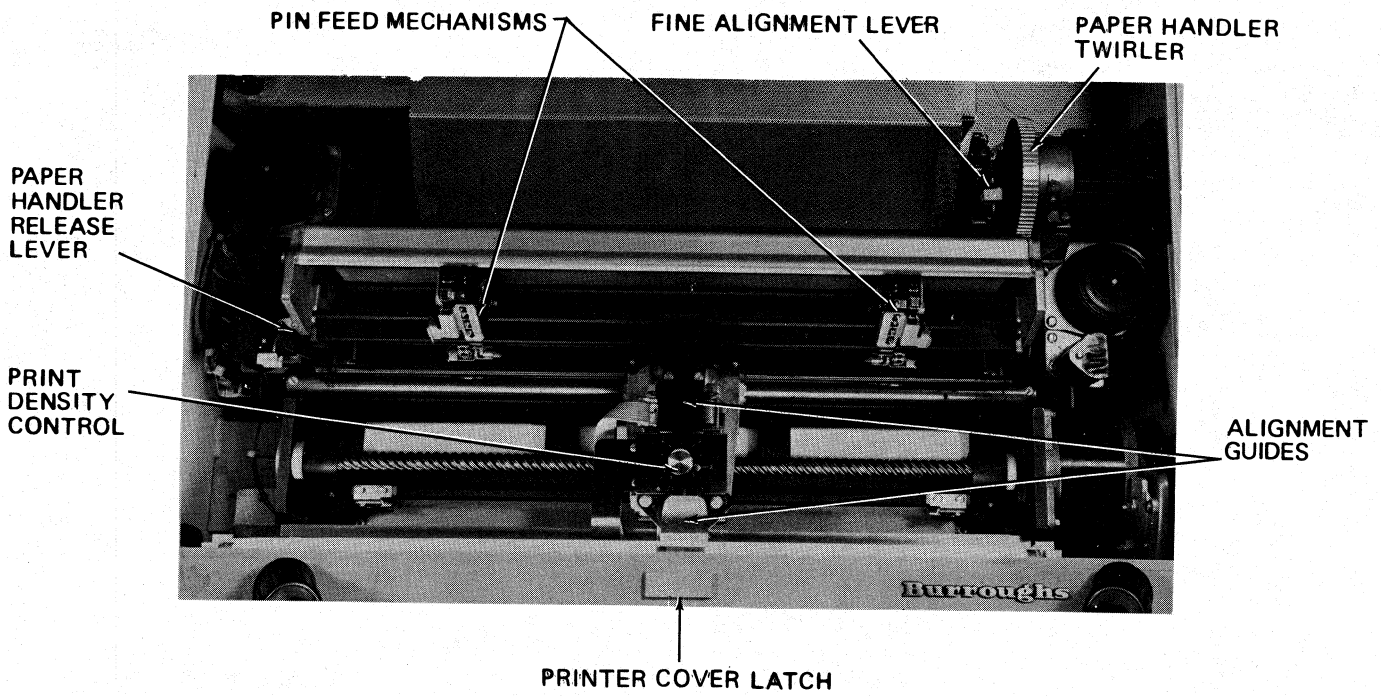

Figure 2-4. 60 cps Printer
Refer to figures 2-4 and 2-5.
2. Open the Paper Handler – Push back the Paper Handler Release Lever (see figure 2-4), and lift the Paper Handler to its upper (open) position.